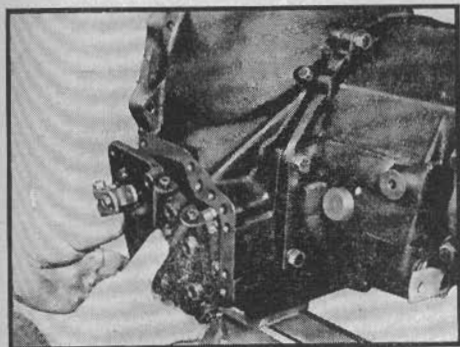

Fig. 14 Removing low and drive valve body. 1953-59
3. Remove transmission Low and Drive valve body assembly, Fig. 14, and gasket. The throttle valve control outer lever assembly should not be removed at this time as it retains the throttle valve inner lever assembly to cover.